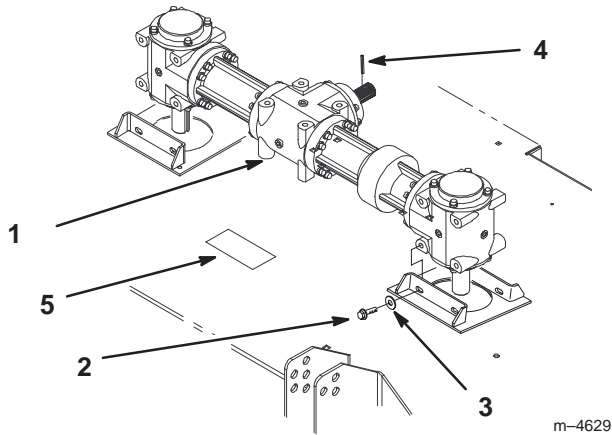

Figure 3
1. Place new gearbox on mower. The vertical output shafts should be centered in the two cone-shaped recesses in the top of the mower (Fig. 3).
2. Insert bolts, with washers, through mounting brackets and into gearbox mounting holes (Fig. 3). Torque mounting bolts to  $260 \pm 25$  in.-lbs.
1. Thoroughly clean mower in area of lubrication decal. Install new decal over the existing decal (Fig. 3 and 4).